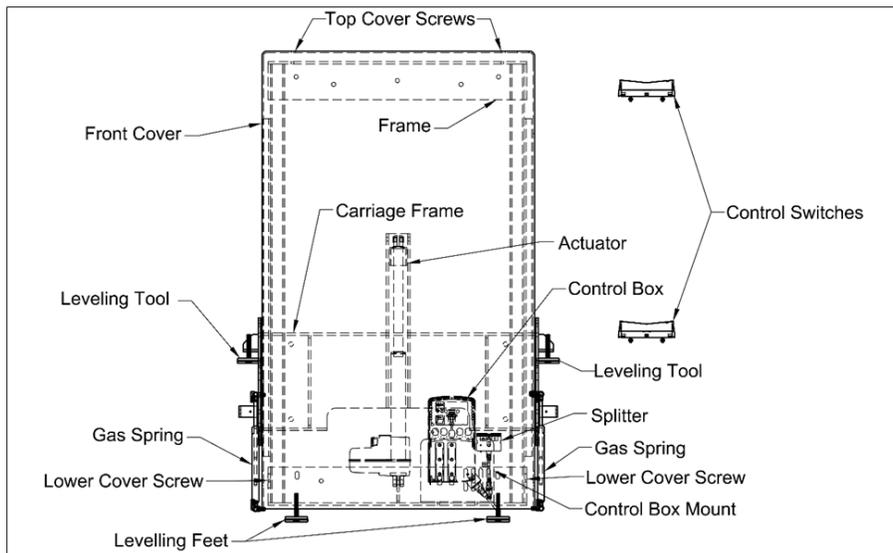

Figure 1- Power Unit Assembly
- **Power Unit Assembly** – Includes the wall-mounted steel frame with integrated LINAK® actuator system, pre-wired control box, dual gas springs, user controls (two control switches or optional hand control), and protective front cover (refer to Figure 1).